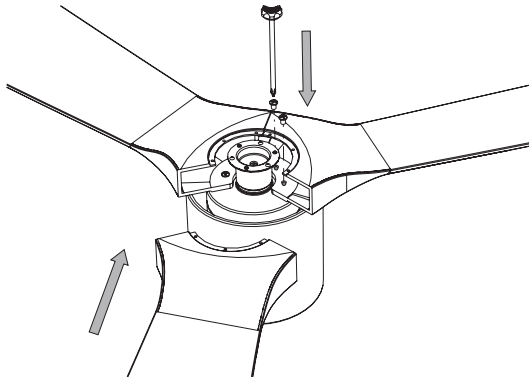

FIGURE 14
1. Place fan blade on motor as shown in Figure 14 and secure with the blade attachment screws and washers.